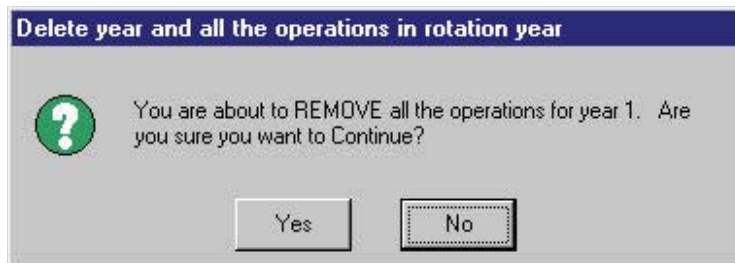

Figure 12.47
- c. A warning prompt dialog pops up (Figure 12.47).